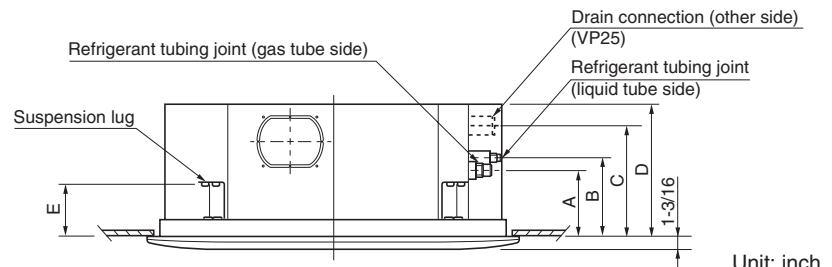

Fig. 1-14
- (3) Determine the pitch of the suspension bolts using the supplied full-scale installation diagram. The diagram and table (Fig. 1-14 and Table 1-5) show the relationship between the positions of the suspension fitting, the unit, and the panel.